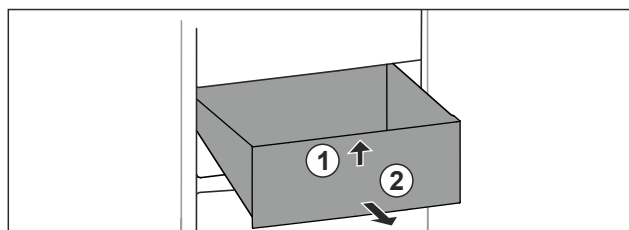

Fig. 68
- Lift up drawer at the front. *Fig. 68 (1).*
- Remove drawer to the front. *Fig. 68 (2).*